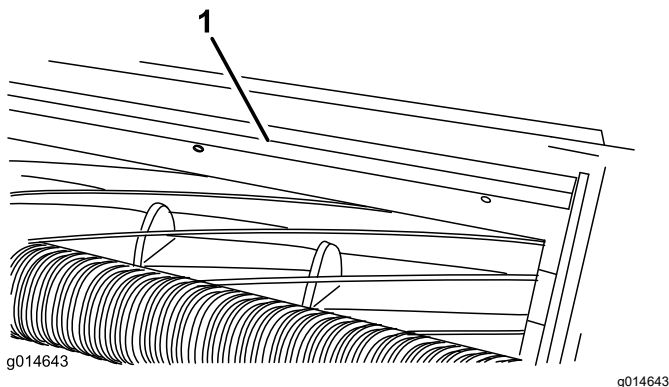

Figure 4
1. Loosen the screws securing the top bar (Figure 4) to the cutting unit.